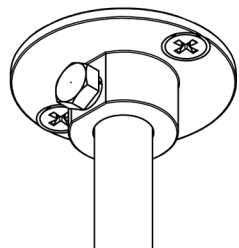

FIG. 5 - INSERT CABLE BASE IN TO CEILING
4. PUSH CABLE BASE INTO HOLE IN CEILING (SEE FIG. 5).